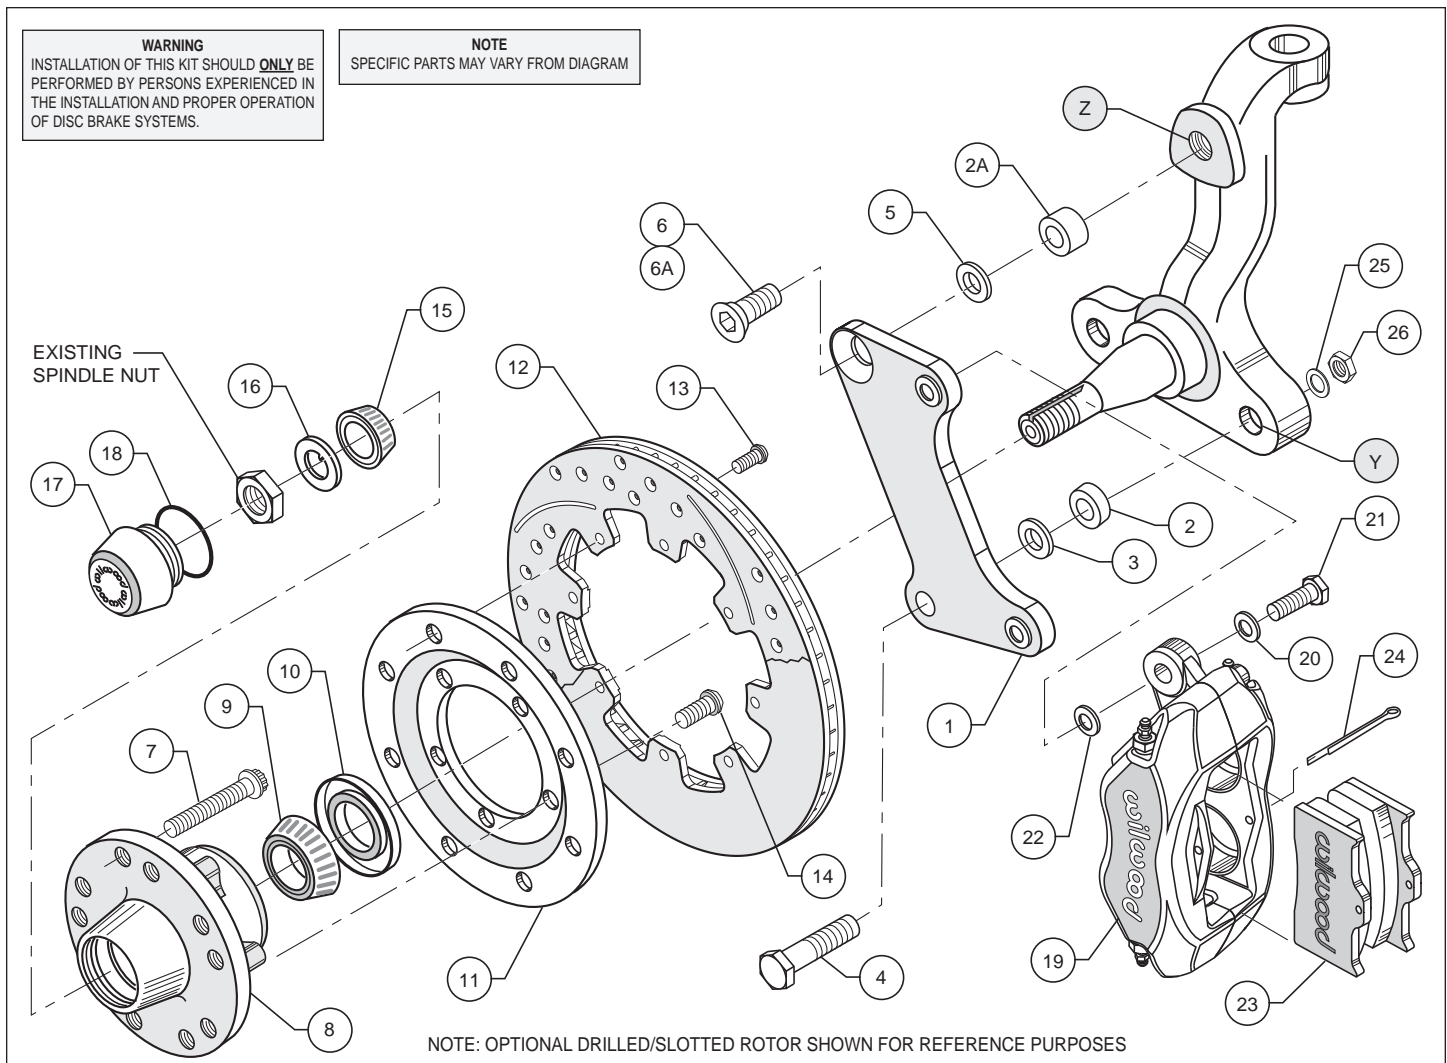
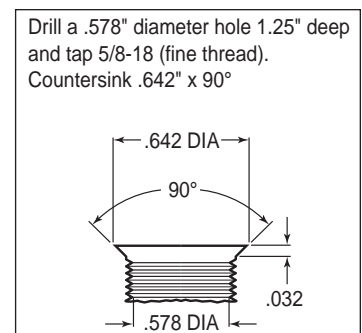
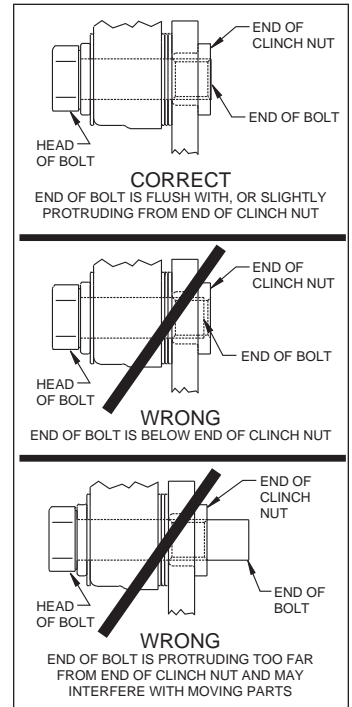

Figure 1. Typical Installation Configuration
Figure 3. Drill and Tap Detail
Figure 4. Clinch Nut Engagement Diagram
•**NOTE:** 1964-66 spindles may require the following modifications (reference Figure 1 and Figure 3): Top anchor pin hole (Z) must be drilled and tapped to the dimensions as outlined in Figure 3. Bottom rear steering arm bolt hole (Y) in the spindle and steering arm must be enlarged to .50" by drilling. A 1/2-20 backing nut (not supplied in kit) will need to be acquired to torque bracket / steering arm bolt (supplied in kit).
•Apply red *Loctite*® 271 to bolt threads (4 and 6, or 6A for disc spindle application) before assembly of the caliper mounting bracket (1). Mount bracket (1) to dust face plate of spindle using the bottom bolt (4) while positioning washers (2 and 3) between bracket and spindle face, then secure from the backside with washer (25) and nut (26), finger tighten only. Slide the upper bolt (6) through the bracket (1) and washer (5) (or, for disc brake spindle, use 6A with spacer 2A and washer 5 positioned between bracket and top hole of spindle face) and into the spindle, torque to 140 ft-lb. Torque bolt (4) to 85 ft-lb. **NOTE:** Be sure the heads of the bracket (1) insert nuts are facing outward toward the wheel.
- Pack the large inner bearing cone (9) with high temperature disc brake bearing grease (available from your local auto parts store) and install into the backside of the hub (8), Photo 2.
- Install the grease seal (10) by pressing into the backside of the hub (8), flush with the end of the hub, Photo 2.
- Orient the rotor (12) and the rotor adapter (11) as shown in Figure 1 and Photo 3. Attach the rotor to the adapter using bolts (13). Using an alternating sequence, apply red *Loctite*® 271 to the threads, and torque to 25 ft-lb.
- Mount the adapter/rotor assembly (11/12) to the hub (8) using bolts (14), as shown in Figure 1 and Photo 4. Using an alternating sequence, apply red *Loctite*® 271 to the threads, and torque to 55 ft-lb.
- Pack the small outer bearing cone (15) with high temperature disc brake bearing grease and install into hub (8). Slide the hub/rotor assembly onto the spindle. Secure using spindle washer (16) and OEM spindle nut, Photo 5. Adjust bearings per Original Equipment Manufacturer (OEM) specifications. Install saved OEM nut lock (if any) and a new cotter pin (not supplied).
- Install the dust cap (17) onto the hub (8), Photo 6. Friction created by the o-ring (18) on the dust cap (17) keeps it from unscrewing. **NOTE:** *The O.D. of the existing OEM spindle washer may be larger than the I.D. of the dust cap not allowing it to seat against the hub face. Therefore, use the spindle washer (16) supplied with the kit instead of the OEM washer.*
- NOTE:** *Please reference the caution statement at the beginning of the assembly instructions.* Mount the caliper (19) onto the caliper bracket (1) using washers (20) and bolts (21), as shown in Figure 1. Initially place two .035" thick shims (22) on each bolt between the caliper and the bracket, Photo 7. Temporarily tighten the mounting bolts and view the rotor (12) through the top opening of the caliper. The rotor should be centered in the caliper, Photo 8. If not, adjust by adding or subtracting shims between the bracket and the caliper. **NOTE:** *The end of the bolt must be flush with or slightly protruding from the head of the clinch nut. See Figure 4.* Place spare shims (22) between washer and caliper mounting ear to achieve the proper mounting fastener configuration. Always use the same amount of shims on each of the two mounting bolts. Once the caliper alignment is correct, remove the bolts one at a time, apply red *Loctite*® 271 to bolt threads, and torque to 40 ft-lb.
- Install the disc brake pads (23) into the caliper, with the friction material facing the rotor (12) and secure in place using cotter pin (24), Photo 9.